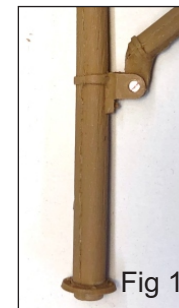

Fig 1
- Assemble the mast and boom using the included copper rod. **Fig 1**
- Glue the Mast Ring onto the bottom of the Mast pushing it up enough to allow some of the Mast to extend. **Fig 1**